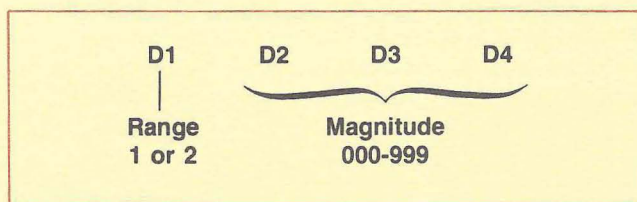

Figure 9-2. 6002A Data Word Format
The magnitude of the constant voltage (CV) or constant current (CC) output of the power supply is programmed by a data word comprised of four ASCII characters (digits) received in the order shown by figure 9-2. The first digit specifies range and the next three digits specify the desired magnitude (percentage of full scale).